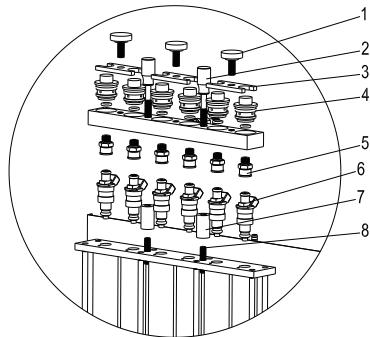

Fig. 05 For fuel top-supply injector
- Choose the fuel distributor stopper (4) from the coupler box and mount a proper O-ring on it. Remember to apply a little lubricating grease on the O-ring. Mount the fuel distributor stopper (4) onto the top-supply fuel distributor.
- Mount the crescent plate (3) and tighten it with a plate bolt (1).
- Choose a proper adaptor (5) according to the injector type and mount it to the corresponding coupler under the top-supply fuel distributor.
- Install the top-supply fuel distributor and the injector on the fuel distributor supporter with a proper adjustable screw and knurled nuts, and tighten two rifle screws (black). See Fig. 05.